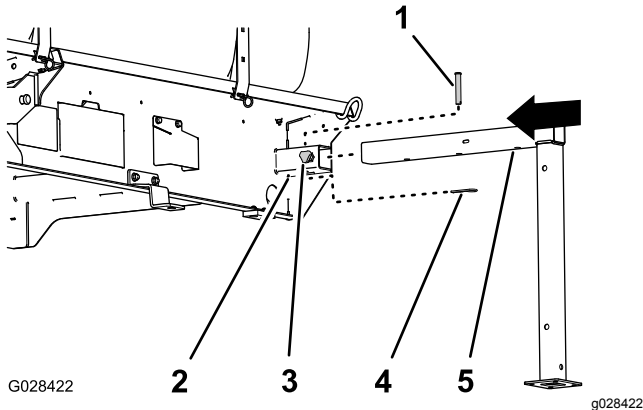

Figure 133
1. Align the front jackstand with the jackstand receiver at the front of the tank (Figure 133).
2. Insert the jackstand into the receiver until the middle hole in the horizontal jackstand tube is aligned with the hole in the top of the receiver (Figure 133).
4. Thread a lock knob into the receiver and tighten the knob by hand (Figure 133).